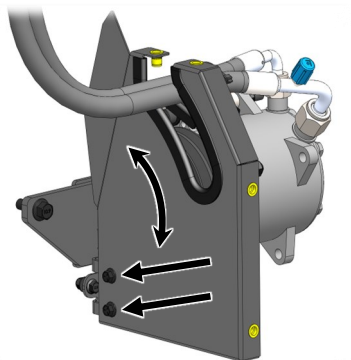

Fig. 9.3 (Install Front Shroud Panel)
- 9.3 See fig. 9.3. Assemble the front shroud panel to the front side of the bracket installed in step 9.2. Ensure hoses have ample clearance from panel and tighten the two fasteners.